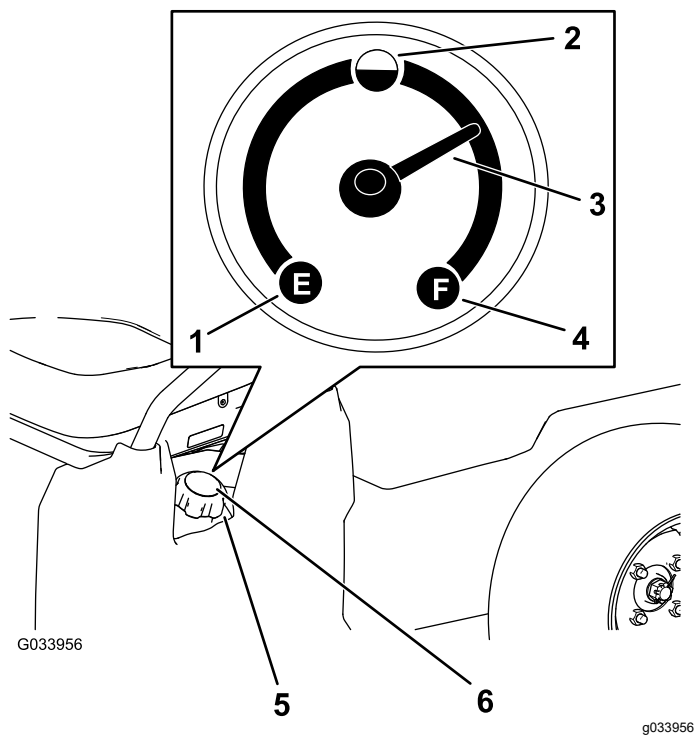

Figure 16
5. Clean the area around the fuel-tank cap (Figure 16).